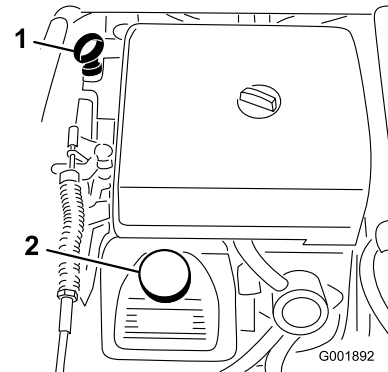

Figure 49
2. Remove the dipstick and wipe it with a clean rag (Figure 49). Insert the dipstick into the tube and make sure it is seated fully. Remove the dipstick and check the oil level.
3. If the oil level is low, remove the filler cap from the valve cover (Figure 49) and pour oil into the opening until the oil level is up to the Full mark on the dipstick. Add the oil slowly and check the level often during this process. Do not overfill.
8. Slowly pour approximately 80% of the specified amount of oil into the oil filler tube (Figure 49).